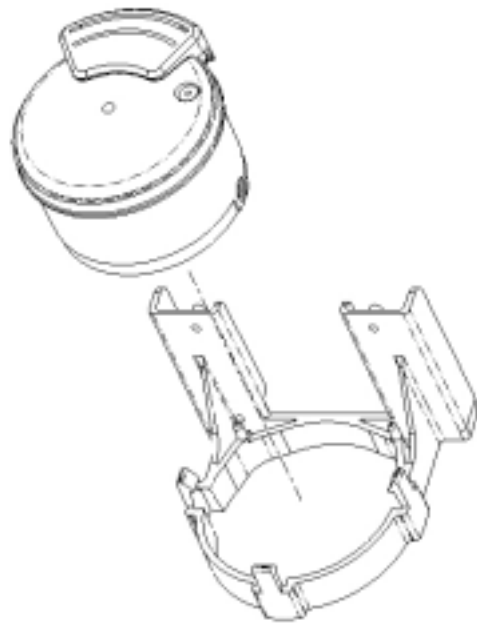

Figure 1 Inserting the Register
- 1 Insert the register into the top of the adapter as shown in Figure 1.